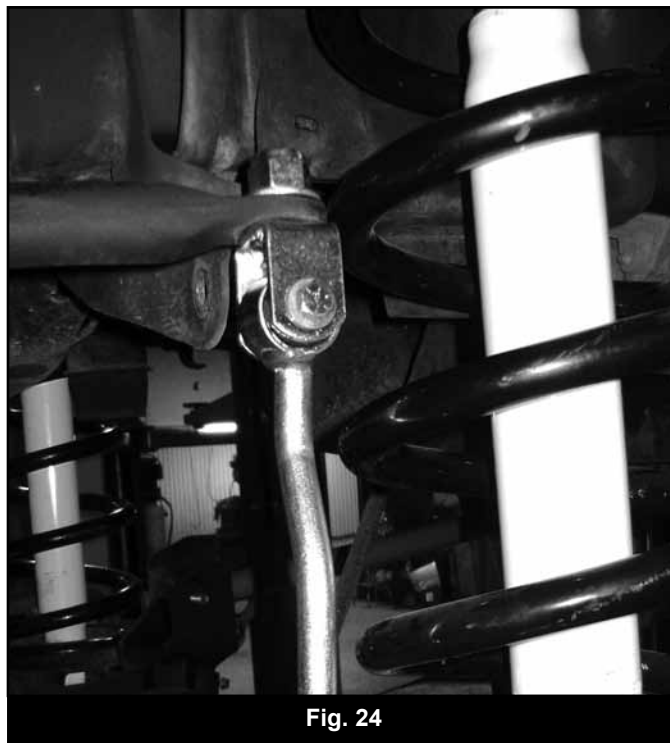

Fig. 24
61. Attach the other end of the sway bar link to the axle with $\frac{9}{16}$ " hardware. Run the bolts from inside to the outside of the vehicle. (Fig 24) It may be necessary to slightly clearance the holes to accept the $\frac{9}{16}$ " hardware. 09 and newer models will have left over hardware from bolt pack #783.
72. Attach the other end of the sway bar link to the new axle bracket with 9/16" hardware. Run the bolts from inside to the outside of the vehicle. (See above Fig 24)